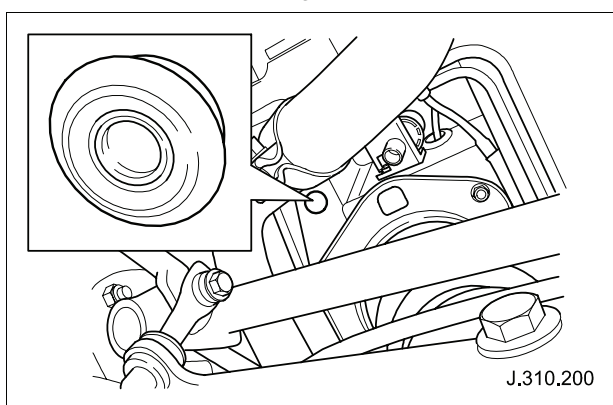

Fig. 12
- 54 Install new blanking plug to the right hand side rear road spring turret (see Fig. 12).